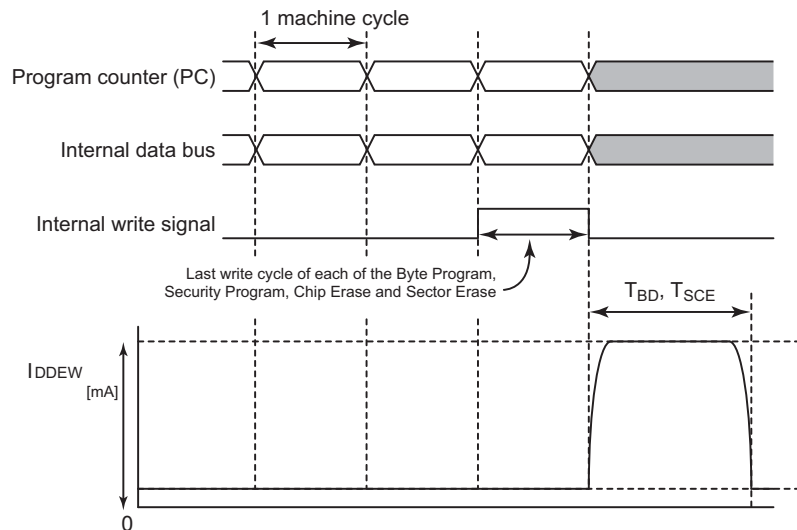

Figure 25-5 Current When an Erase or Write is Being Performed on the Flash Memory
- Note 8: If a write or erase is performed on the flash memory or a security program is enabled in the flash memory, an instantaneous peak current flows, as shown in Figure 25-5.